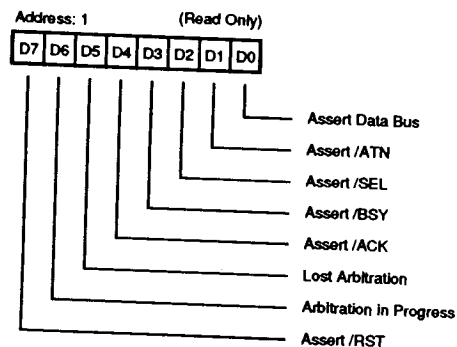

Figure 8. Initiator Command Register (Register Read)
**Initiator Command Register. Address 1 (Read/Write).** The Initiator Command Register (Figures 8 and 9) are read and write registers which assert certain SCSI Bus signals, monitors those signals, and monitors the progress of bus arbitration. Many of these bits are significant only when being used as an Initiator; however, most can be used during Target role operation.